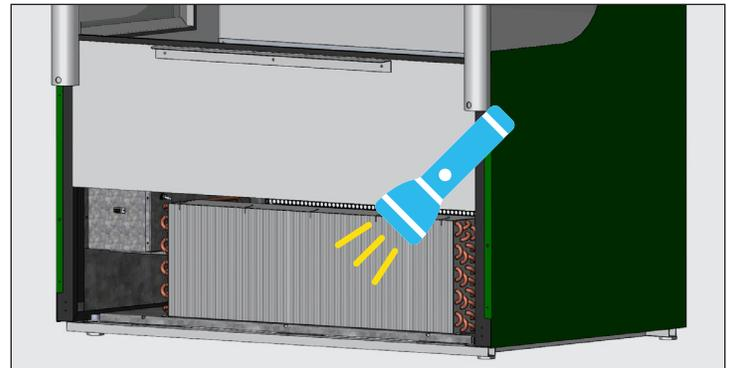

Fig. 5. Verify all blockages have been removed.
4. With dirt removed from the surface of the coil, use a flashlight to verify that you can see through the coil and observe the condenser fan blade. See fig. 5.